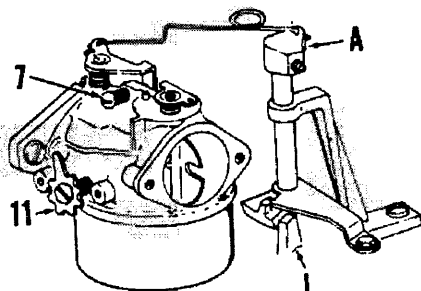

Fig. E3-5—Maximum speed in neutral should be 2500-3500 rpm. Speed is adjusted by repositioning lever (A) when throttle bracket is against locknut lever (L).
lever (L—Fig. E3-5). Engine speed should be 2500-3500 rpm. If engine speed is not within limits, loosen set screw and reposition lever (A).